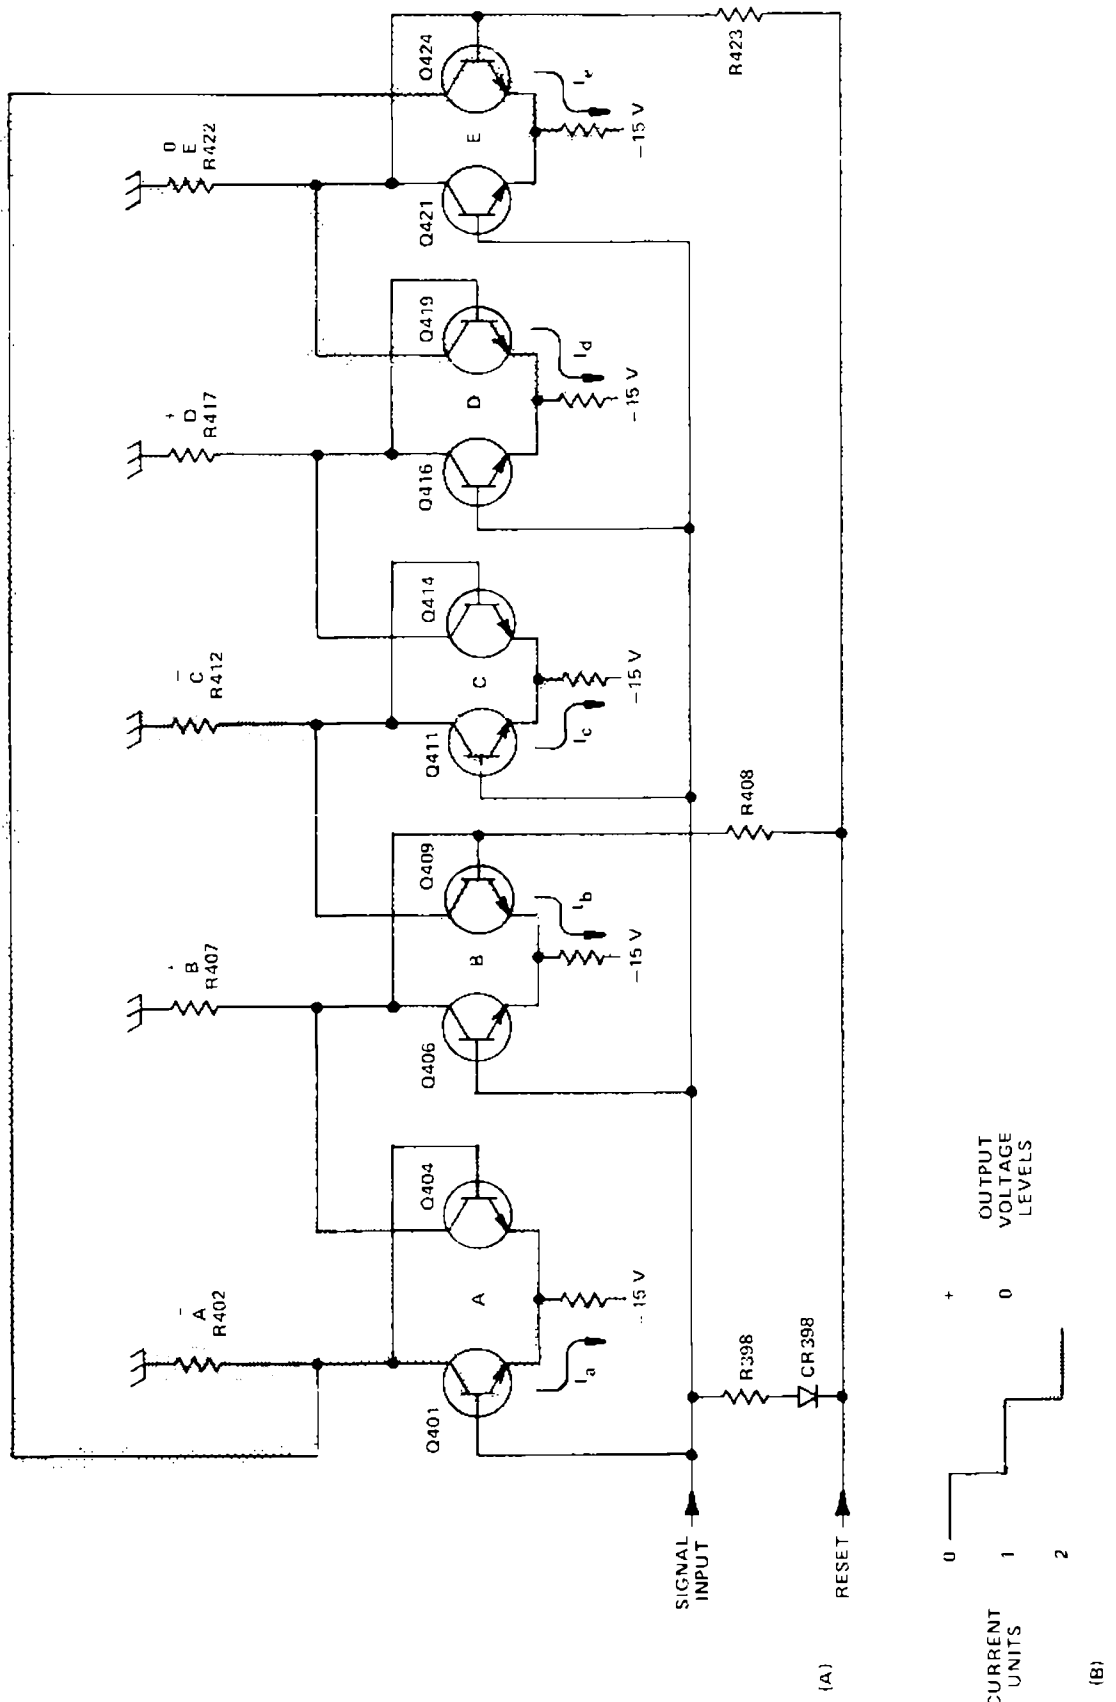
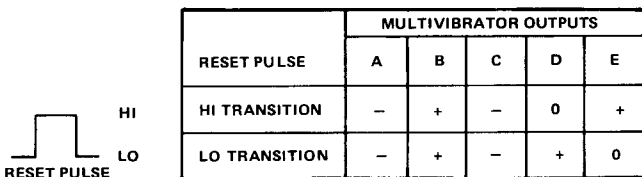

Fig. 2-4. (A) Ring Counter simplified schematic diagram; (B) Multivibrator current units/output voltage levels chart.
Fig. 2-5. Ring counter reset function.
Gated Ring Counter. The Gated Ring Counter is made up of five DC coupled multivibrators. Each multivibrator (multi) receives the input signal, however, the ring counter configuration is such that an input will change the state of only one multi. In turn, this conditions the succeeding multi to respond to the next input, etc. A simplified diagram of the ring counter is shown in Fig. 2-4. Each multi is made up of two transistors. The multis are identified in Fig. 2-4(A) as multi A, Q401 and Q404; multi B, Q406 and
In each multi, the emitter-resistor current (e.g., I_a) will flow through the transistor which has the more positive base level. The current through a multi load resistor is determined by the state of the corresponding multi and the preceding one. Therefore, the load resistor current can be at one of three levels; and, this will result in one of three voltage levels dropped across the load resistor. For example, the voltage dropped across the load resistor B may be due to one current unit (I_a or I_b), two current units ($I_a + I_b$), or zero. The voltage levels resulting from zero, one, and two current units through a load resistor are represented in Fig. 2-4(B); and are labeled +, 0, and - respectively.
After reset, the state of each multi is shown in Fig. 2-4(A) by the direction of the arrow representing emitter-resistor current. The resultant voltage dropped across each load resistor is A, -; B, +; C, -; D, +; and E, 0. The multi output voltage is applied to the base of the right transistor through a zener diode. The zener diode provides level shifting to keep the relative voltage level between the right and left transistor bases the same. As reset is applied, the counter assumes the state shown in Fig. 2-5 labeled RESET HI and changes to the state labeled RESET LO as the reset pulse is removed.